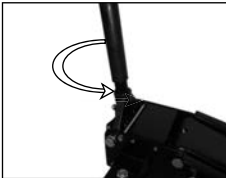

fig 5.
1. Use the handle assembly to twist the release valve 1-1/2 turns counter-clockwise (fig.5).
1. **Check oil level** - Open release valve with the handle assembly (fig.5) not more than two twists and press down on head cap (1) (fig.8) to ensure lifting arm (7) is fully down.
1. Close release valve by twisting the handle assembly clockwise until firm resistance is felt (fig.5).
2. Inspect position of head cap (1) beneath support area, making sure it is centred and properly engaging support area.
3. Slowly pump the handle assembly until the head cap (1) contact the vehicle's lift point.
4. To lift, continue pumping until vehicle reaches desired height. Pay attention to head cap (1) position as vehicle is being raised to be sure there is no danger of support area slipping off or lifting from the head cap (1).
6. SLOWLY twist jack handle assembly counter-clockwise (fig 5.) to ease vehicle down onto jack stands.
2. Slowly twist the handle assembly counter-clockwise [fig.5] until the jack just begins to lower.